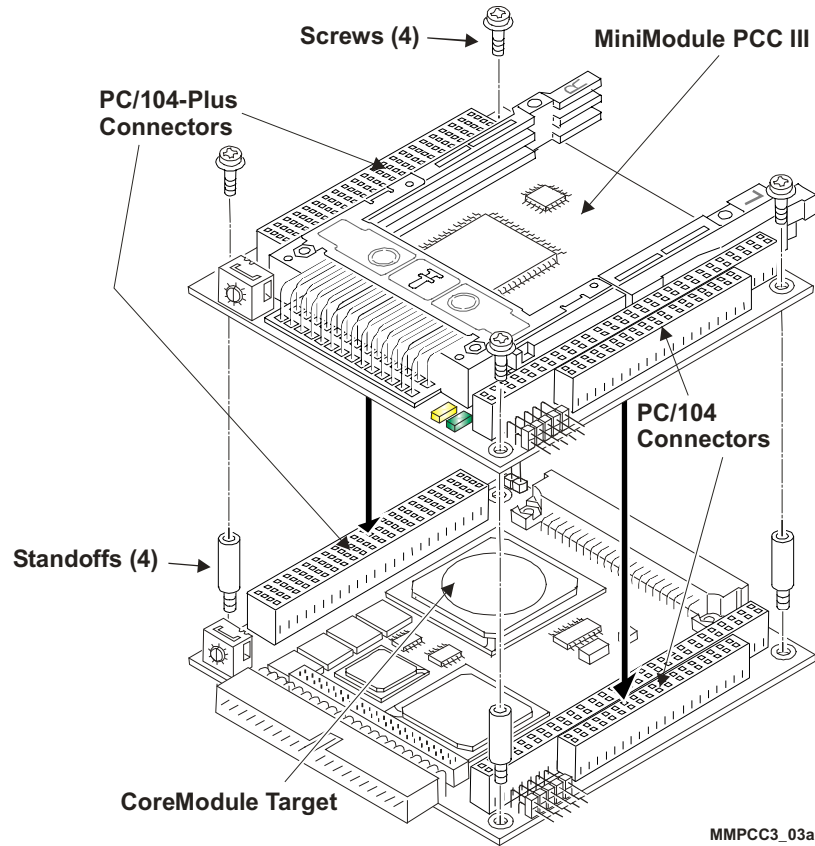

Figure 2-4. Installing MiniModule PCC III on CoreModule Target
10) Install the spacers on the target board	<ul style="list-style-type: none"> <li>• Install the threaded spacers onto the target board at the four corners of the MiniModule board. See Figures 2-4 and 2-5.</li> </ul>